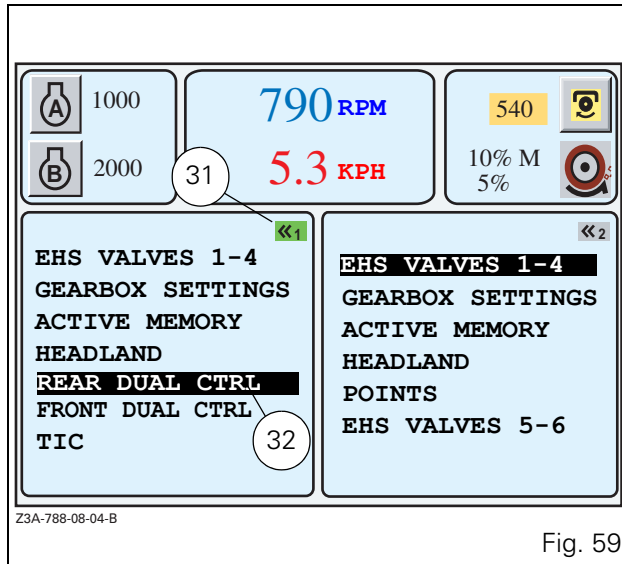

Fig. 59
REAR DUAL CTRL menu displayed in the left-hand window only (Fig. 59):
- To display this menu, press key «₁ twice. The first press selects the window and the second press displays the list if no application was activated previously. The active application is indicated by the green icon at the top right-hand of the window (31 Fig. 59), and on b/w screens the active window is indicated by the same icon in reverse video.
- To select the REAR DUAL CTRL menu, select the application using the encoder. The selected application is displayed in a black frame (32 Fig. 59).
- Pressing the key «₆ switches the DUAL to ON or OFF when the window is active (green icon 32 Fig. 59).